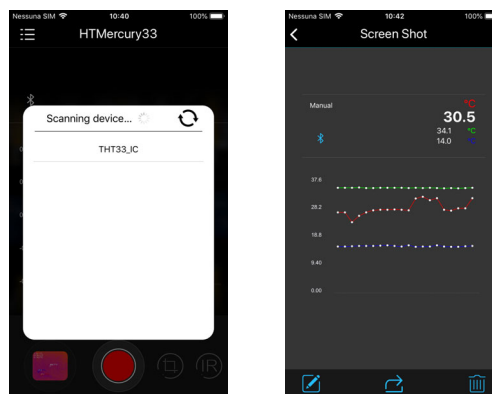
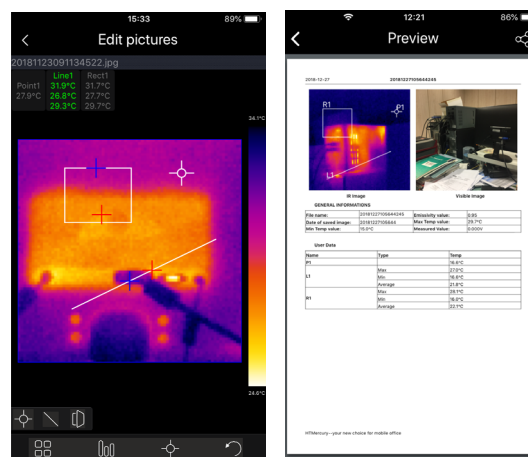

Fig. 19: Communication with the APP HTMercury
Fig. 20: Applications of the APP HTMercury
4. Search for the instrument in the APP (see Fig. 19 – left side).
5. Real-time display of temperatures (central spot, hottest spot, coldest spot) of the image is available on the mobile device (see Fig. 19 – right side) and it is possible to save the screens from the APP's internal menus. It is also possible to save screens of thermographic images (see Fig.20) and insert items onto them for advanced analyses (see the Help on line of the APP for further details)